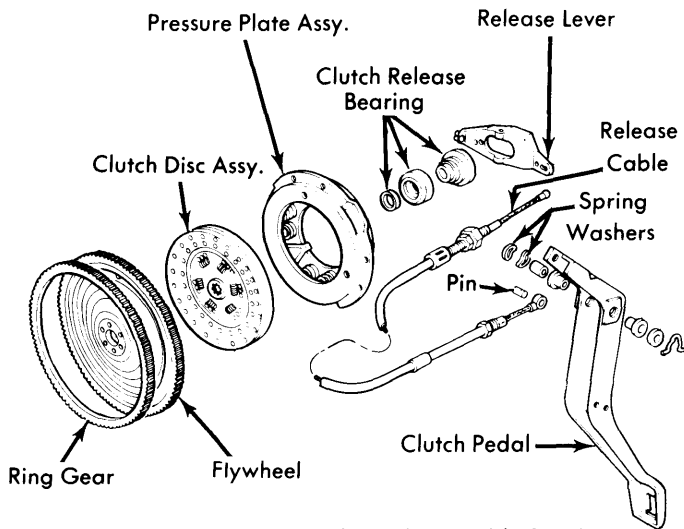

Fig. 1 Exploded View of Clutch Assembly & Linkage
**Removal** — Raise vehicle on a hoist. Loosen clutch cable at adjuster on clutch housing, then remove spring clip securing clutch cable to top of pedal. Remove pivot pin (Fig. 1) and pull top of cable into engine compartment. Move clutch release lever boot on clutch housing and free cable from lever, then remove cable from vehicle.